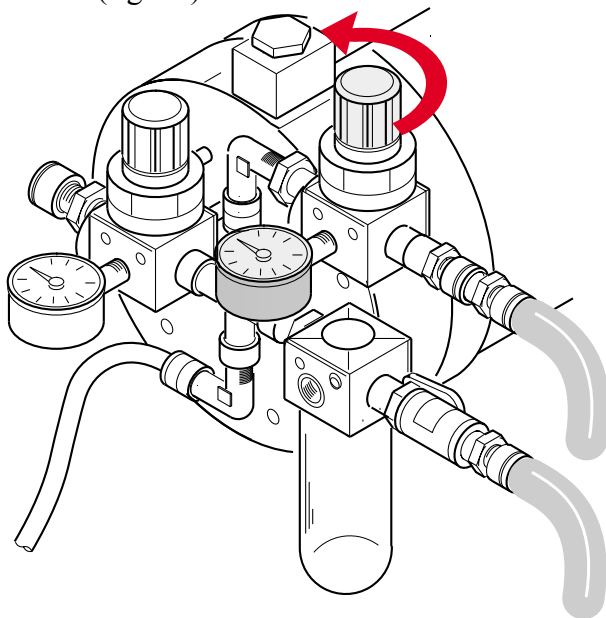

Fig.27
4) Rotate the pressure regulator ring nut in an anticlockwise direction (air spray gun) until the pressure reaches "0" (fig. 27).